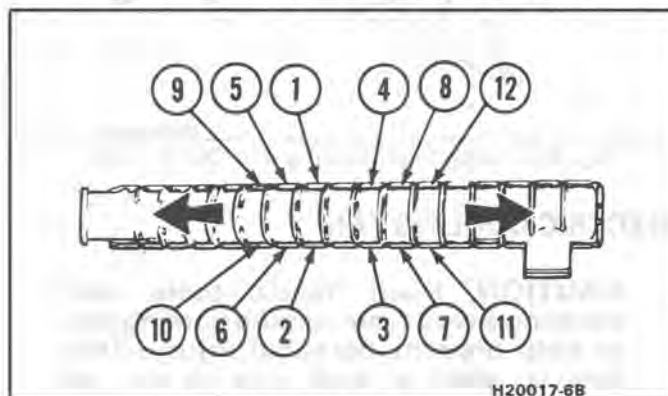

Fig. 25 Clenching Sequence
10. Clamp remaining clinch tabs around the header using the clinching tool or pliers (Fig. 25).